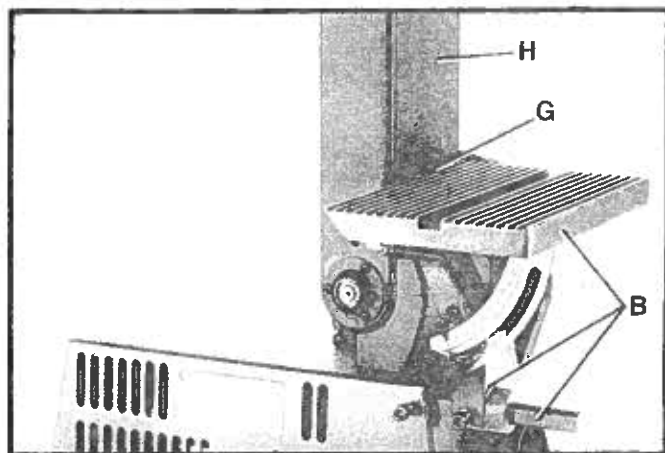

Fig. 37
4. Fig. 37, illustrates the table assembly (B) assembled to the belt unit. **WARNING: THE TABLE EDGE (G) MUST BE POSITIONED A MAXIMUM OF 1/16 INCH AWAY FROM THE SANDING BELT (H) TO AVOID TRAPPING THE WORK OR FINGERS BETWEEN THE TABLE AND SANDING BELT.**